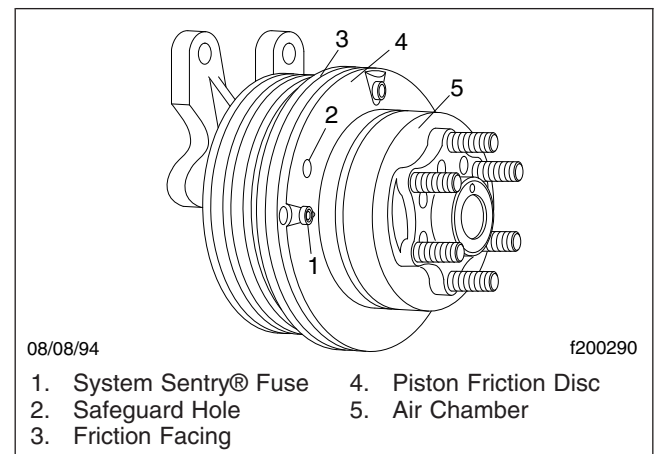

Fig. 7, Horton Advantage Fan Clutch
6. Check for wear on the friction facing. See **Fig. 7**. Replace the friction facing if it is worn to a 1/16-inch (1.6-mm) thickness or less. Also check the facing for signs of oil contamination or burn marks. If evidence of oil or burn marks are found, replace the friction facing.